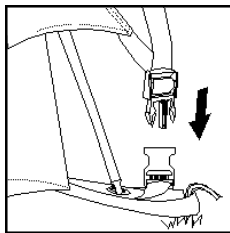

Figure 6A
11. Clip the buckles on the fly to the buckles at each corner of the tent body (figures 6A and 6B).